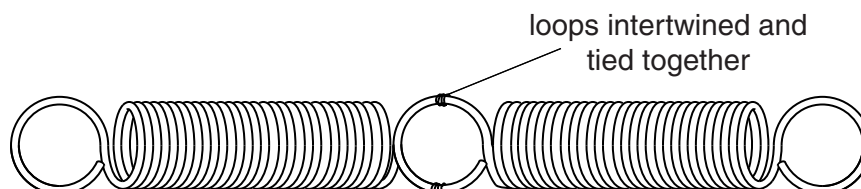

Fig. 1.1
1. If new springs are used, they should be gently stretched a few times by hand, keeping well within the elastic limit of the springs. The loop at the right hand end of one spring should be tied to the loop at the left hand end of the other spring as shown in Fig. 1.1.